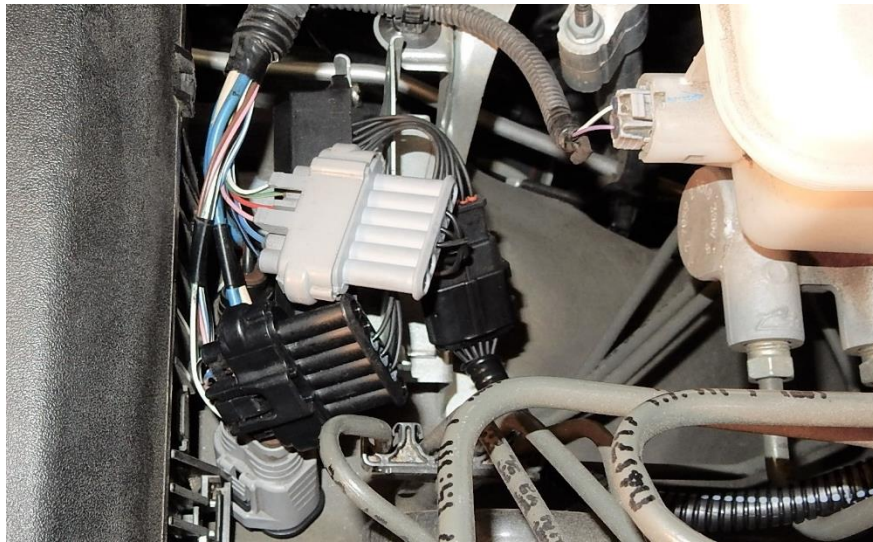

Figure 9 - Gen-II unit mounted on sub-bracket and completely connected
14) **Important!** With the 4.0L Gen-II unit installed the ECM and Gen-II unit only requires one good ASV pressure sensor for proper operation. If you do not have a damaged pressure sensor plug all connectors of the Gen-II's harness into the vehicle according to figure 9 above.